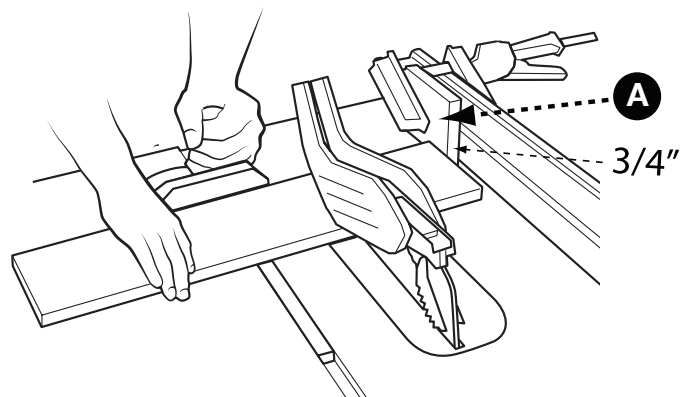

FIGURE 46
When crosscutting a number of pieces to the same length, you can clamp a block of wood (A) (See Figure 46) to the fence and use it as a cut-off gauge. The block (A) must be at least 3/4-inch (19 mm) thick to prevent the cut off piece from binding between the blade and the fence. Once the cut-off length is determined, lock the fence and use the miter gauge to feed the workpiece into the blade.